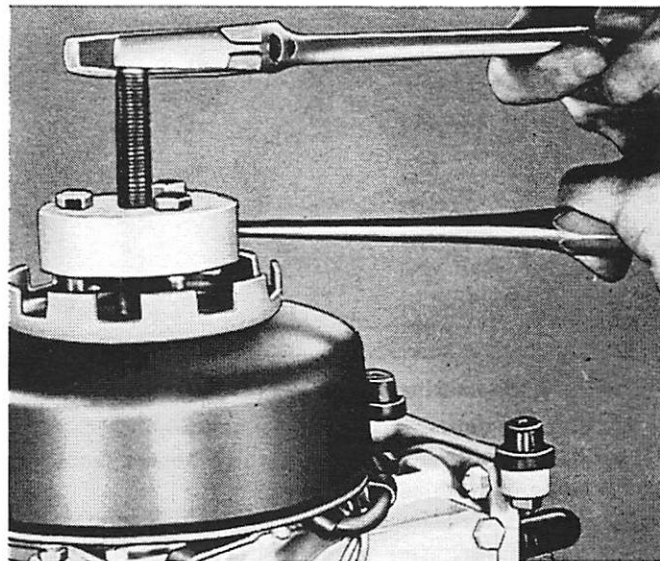

Figure 2. Removing Flywheel
1. To remove flywheel, use Flywheel Puller (91-24695A1). (Figure 2)
4. Tighten center screw with wrench until pressure is exerted on end of shaft to loosen. (Figure 2)